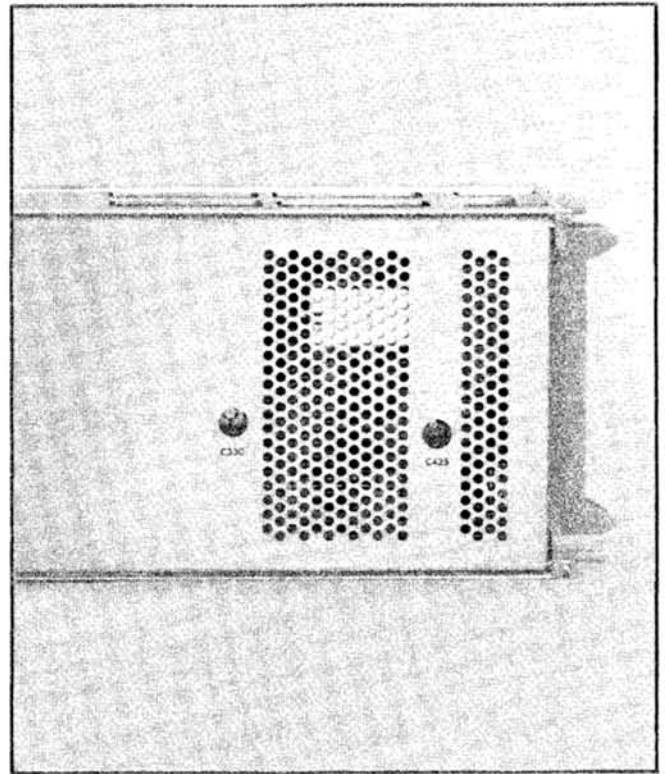

Fig. 5-6. Right side of 7A22 showing location of adjustments.
- f. ADJUST—With the frequency set to 1 MHz, adjust C425 for 4.2 div of display amplitude. See Fig. 5-6 for location of adjustment.
h. Adjust C330 (and C144 SN B080000 and up) for minimum vertical deflection. See Fig. 5-6 for C330 location. C144 is under the plastic cover near Q153 on the left side of the 7A22 (see Fig. 4-6, page 4-10).